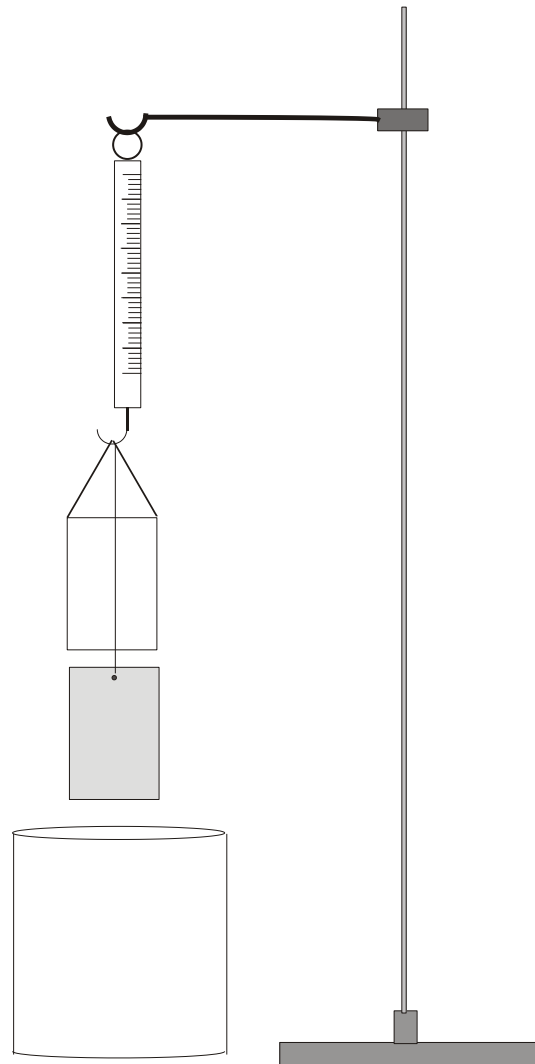

Fig. 1 Experiment setup
- Set up the stand and clamp and hang the dynamometer on the hook (Fig. 1).